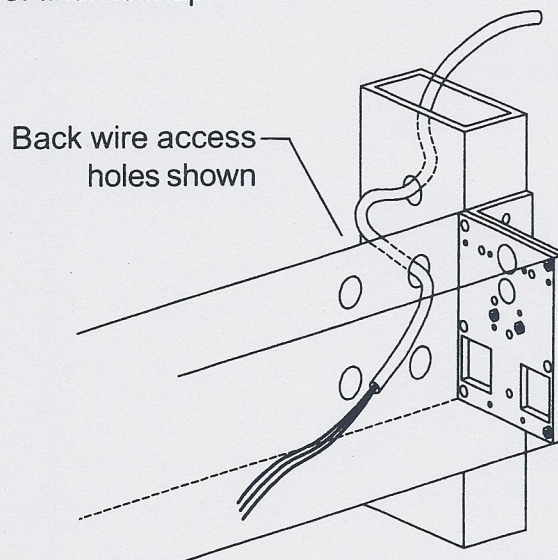

Figure 3-4
- 3.5. Feed the 120 volt power conduit into the header (Figure 3-4). Leave 12" minimum of wire inside the header for final hookup.